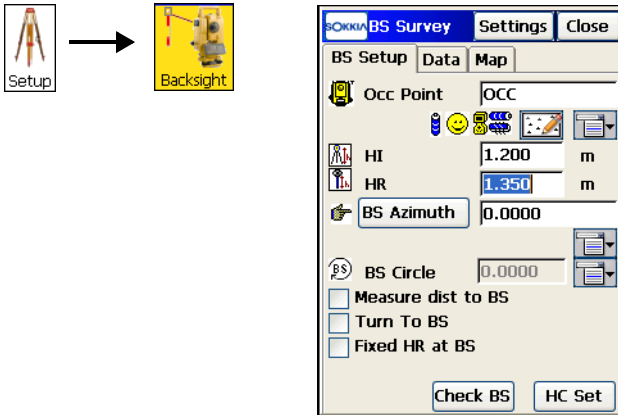
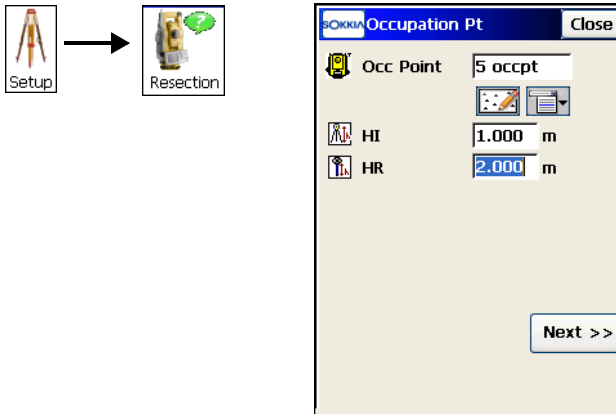

Figure 8-34. Backsight Survey
Figure 8-39. Occupation Point
1. Tap **Setup** ► **Backsight** (Figure 8-34 on page 8-33). The **BS Survey** screen displays.
2. On the **BS Survey** screen, set the following backsight parameters (Figure 8-34 on page 8-33):
bitmap in the corresponding field) and check if the distance to the backsight should be measured and if the height of the backsight point rod is fixed (Figure 8-34).
5. To adjust the horizontal circle of the total station, tap the **HC Set** button (Figure 8-34). Using the *Backsight HC* screen, set the horizontal circle reading that corresponds to the backsight point direction. Enter the value manually or choose the value of the horizontal circle using the menu on the bitmap in the *BS Circle* field.
2. Tap **Setup ▶ Resection** (Figure 8-39). This function is also available from the *Backsight Survey* screen. Tap **Setup ▶ Backsight**, then tap the menu icon next to the Map icon in the *Occ. Point* field and select the *Resection* item (Figure 8-34 on page 8-33).
2. Tap **Setup ▶ Remote BM**. This function is also available from the *Backsight Survey* screen. Select the **Setup ▶ Backsight** icons, then tap the icon menu next to the Map icon in the *Occ. Point* field and select the *Elevation* item (Figure 8-34 on page 8-33).